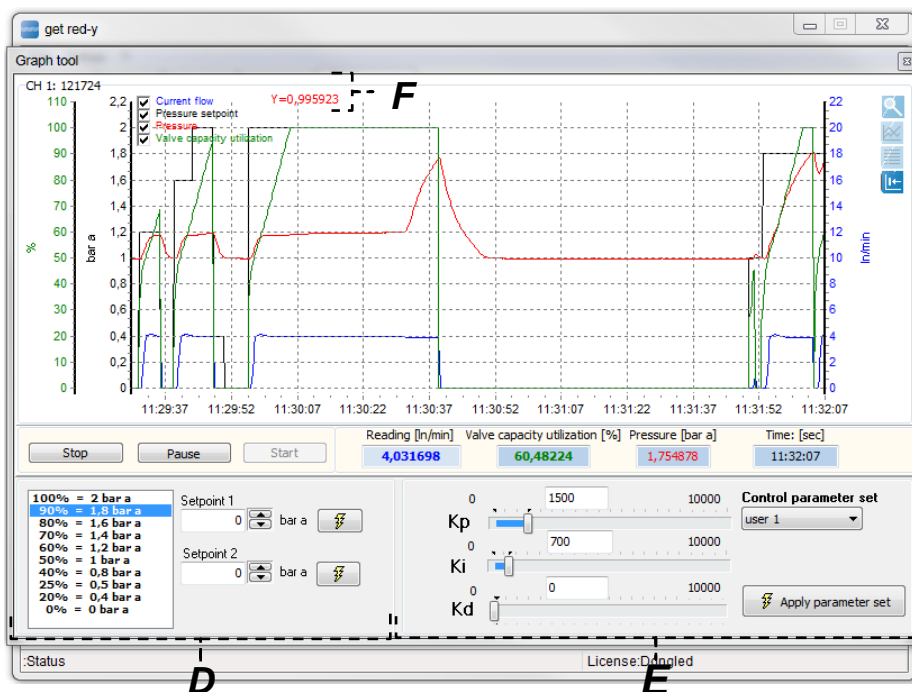

Figure 34: Graphic representation of the measurement value signals for providing the control parameter records in chronologically compressed form
-  The data is displayed as a graph (see Figure 33 and Figure 34).
-  Click the button in Item **d** to switch the image of the button and the measurement data is displayed in chronologically compressed form (see Figure 34), i.e. all data of the measurement value recording is shown in one diagram.